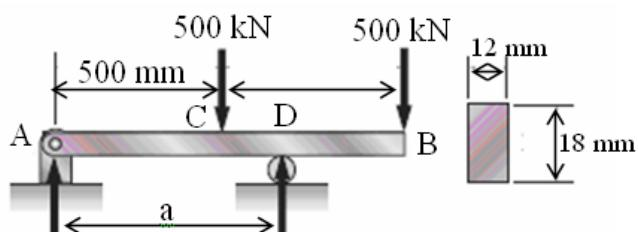

Figure 2
2. For the beam and loading shown in Figure 2,